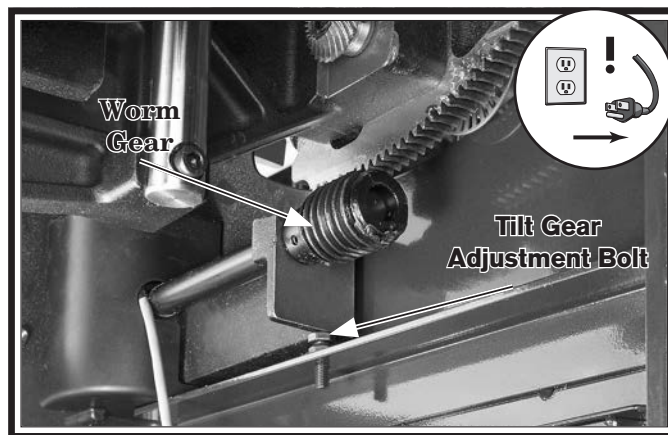

Figure 122. Tilt gear backlash adjustment bolt.
3. Open motor cover and locate tilt gear adjustment bolt inside cabinet as shown in **Figure 122**.